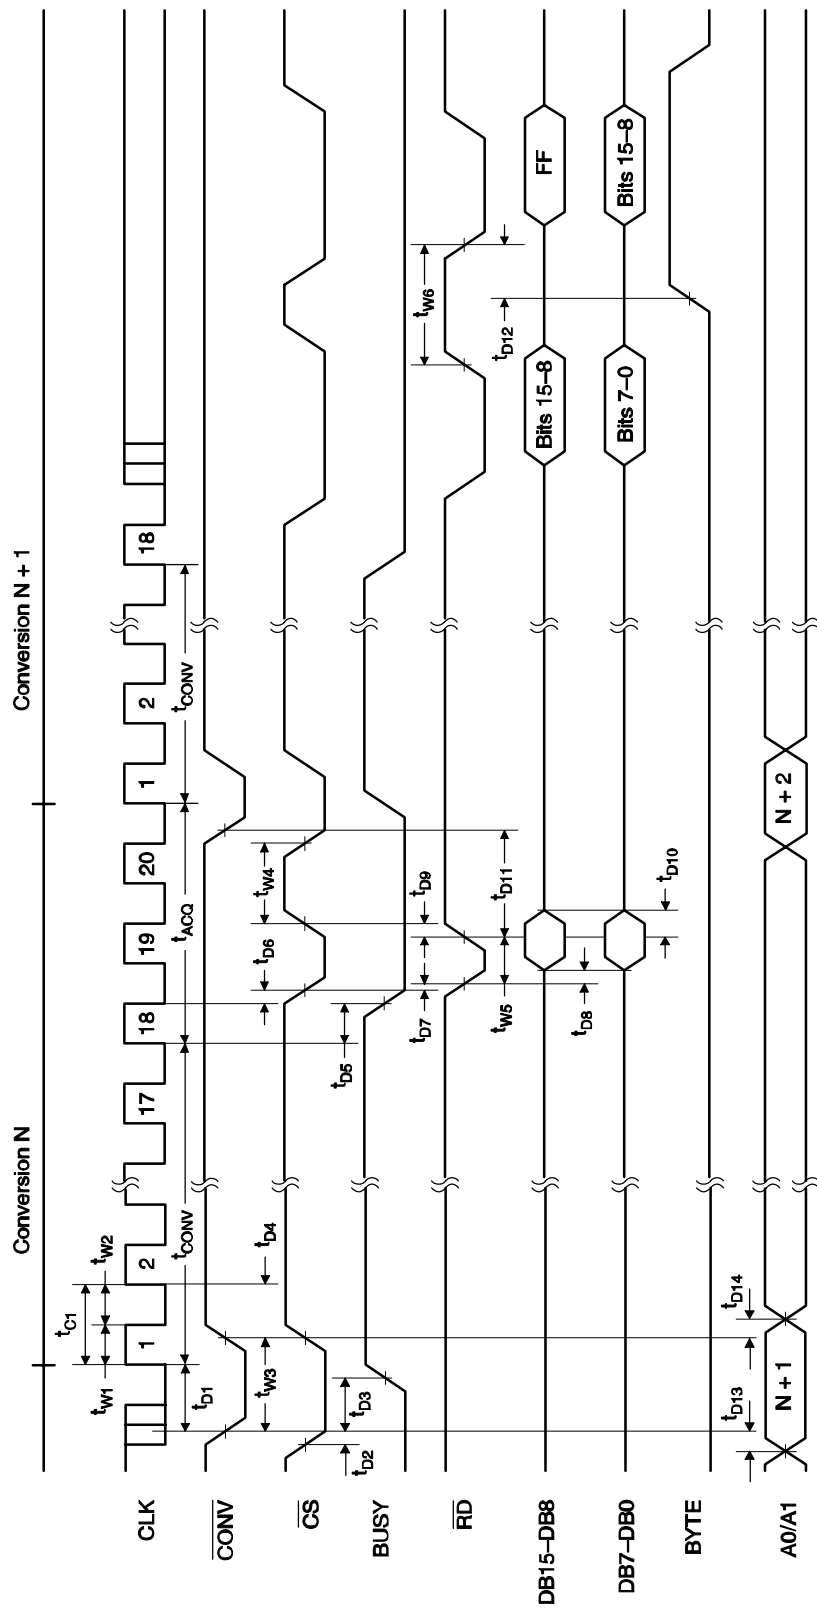

Figure 2. Timing Diagram
(1) All input signals are specified with rise and fall times of 5ns, $t_{\text{R}} = t_{\text{F}} = 5\text{ns}$ (10% to 90% of BV_{DD}), and timed from a voltage level of $(V_{\text{IL}} + V_{\text{IH}})/2$.
(2) See timing diagram in Figure 2.